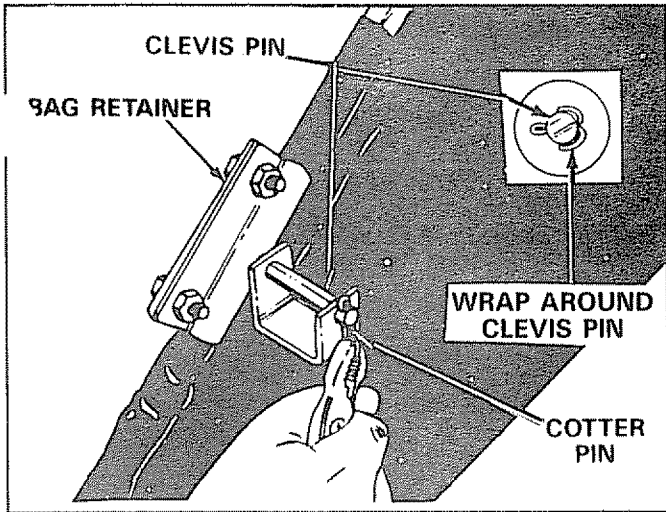

FIGURE 23
15. Assemble the bag retainers to clevis pins. Secure with cotter pins. See figure 23. Wrap cotter pin around clevis pin as shown in figure 23.